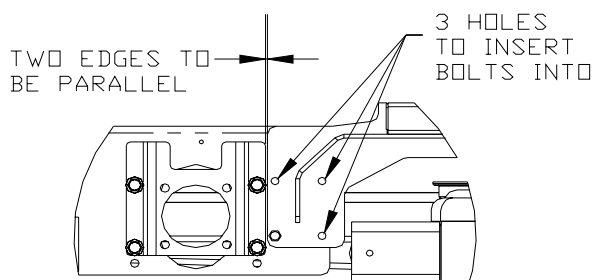

FIGURE 1
3. Using the hardware provided in the literature package, insert 3 bolts per side into the frame side where the front frame connects to the rear deck. (See FIG 1) A pry bar can be used to align the holes.